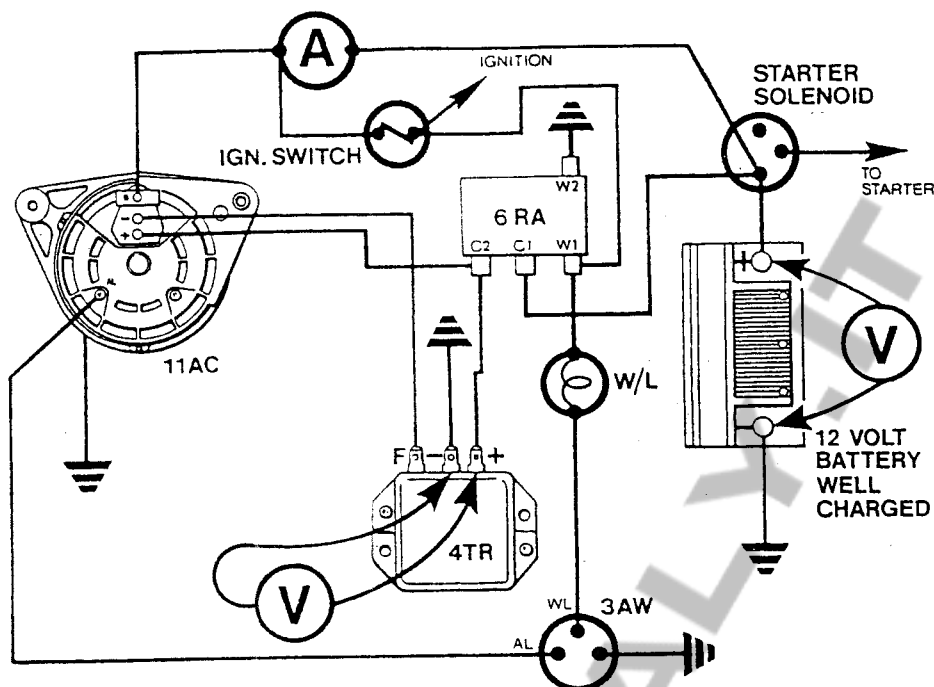

Fig. 74 Checking voltage regulator setting (4TR)
- (a) With ammeter in the main output cable, connect a voltmeter across the battery terminals. See Fig. 74.